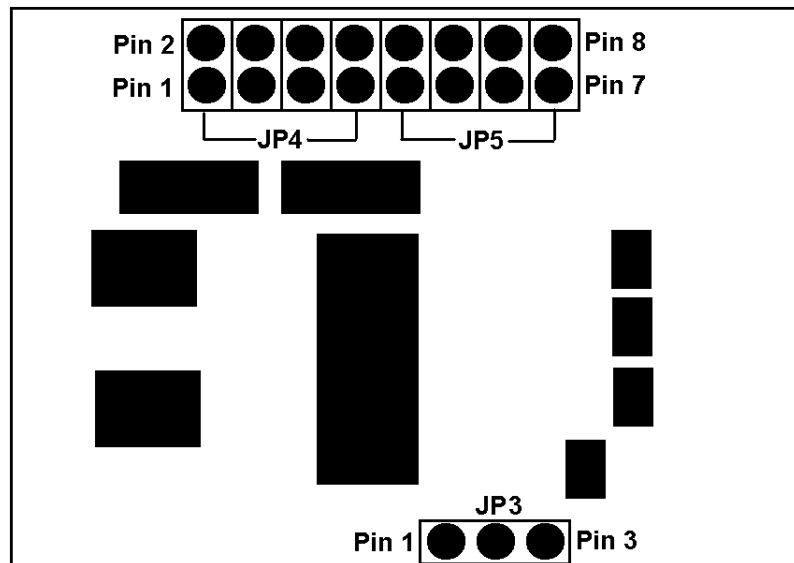

Figure 6-3: LCD board jumper locations
**Step 2. Locate JP4 and JP5** - The only jumpers that need to be changed are JP4 and JP5. Both of these jumpers are 2x4 pin pin-header jumpers. The location of these jumpers is shown in *Figure 6-3* below.